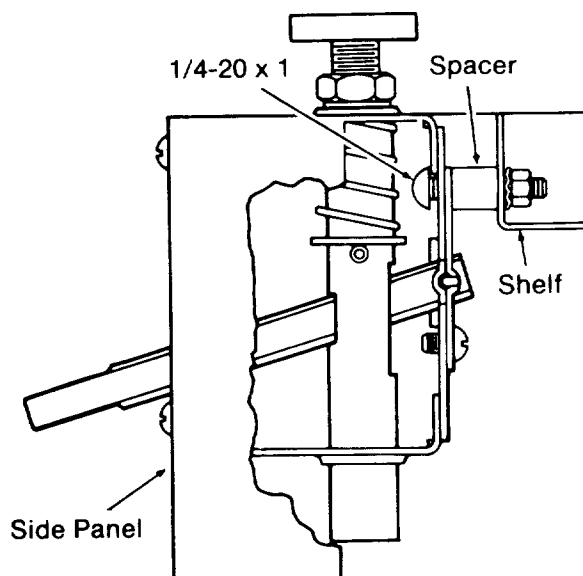

Fig. 35
15. Put a truss head bolt through the *foot assembly*, *spacer*, and *shelf* to hold the *spacer* in place. (Figures 35 & 36)